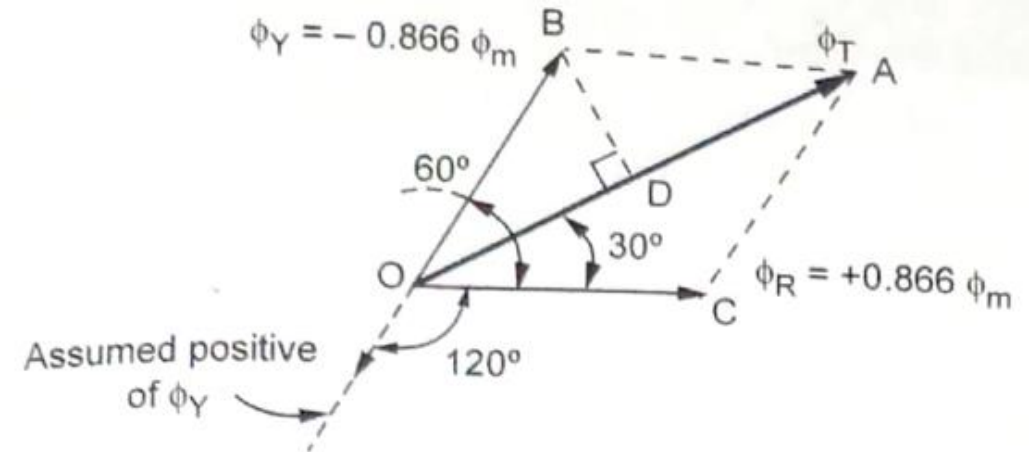

Fig. 10.2.3 Vector diagram for $\theta = 60^\circ$
- Thus ϕ_R is positive and ϕ_Y is negative hence phasor diagram is as shown in the Fig. 10.2.3.